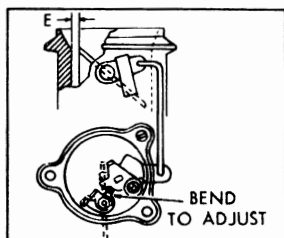

FIGURE 6
b. Figure 6. Hold choke valve closed lightly, then open throttle to wide-open position. The distance "E" between choke valve and air horn wall should be as listed in table. Make sure all parts are held so that slack will be removed from linkage. To adjust, bend cam contact lever ear as shown.
UNLOADER ADJ. Fig.6